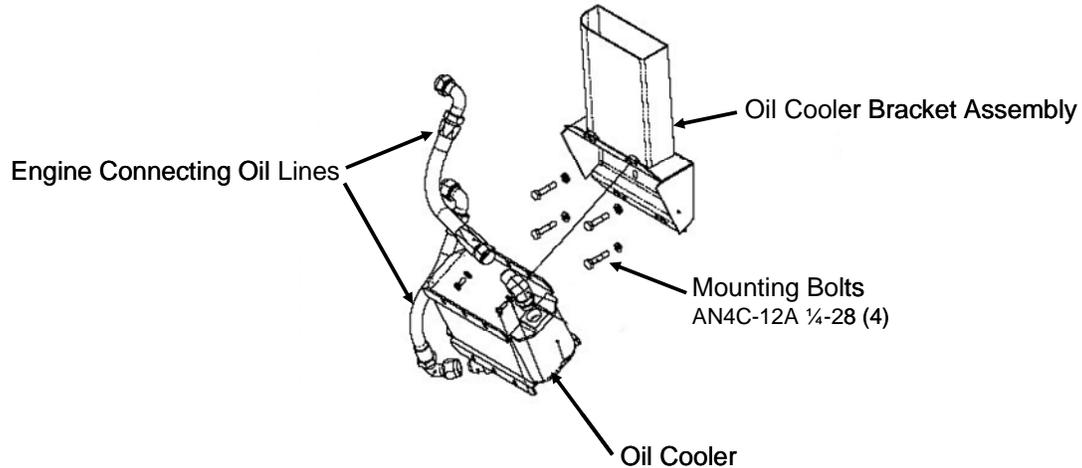

Figure 71-10 Oil Cooler Removal
28. Disconnect oil cooler from firewall Oil Cooler Bracket Assembly as shown in Figure 71-10. The Oil Cooler Assembly is removed with the engine. Secure the assembly to engine structure with temporary support relieving oil line strain.